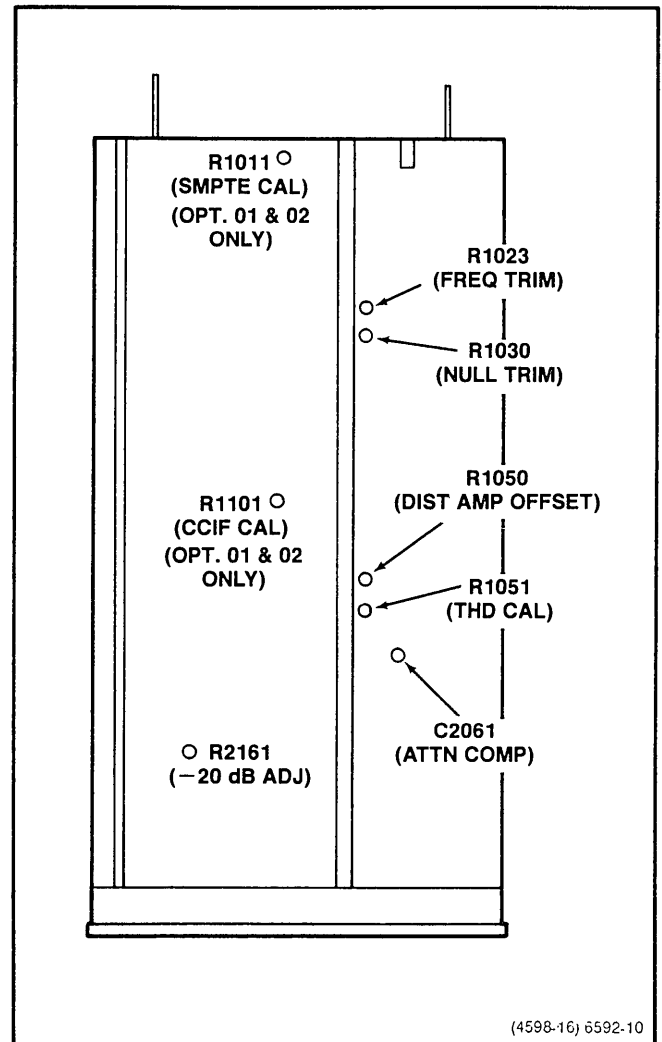

Fig. 4-6. AA 501A top cover adjustment access.
To gain access to the test points and adjustable components, remove the instrument side covers (refer to the Maintenance section for instructions). Some adjustments are accessible through the top and bottom covers. See Fig. 4-6.
e. ADJUST—R1050, accessible through a hole in the top cover (see Fig. 4-6) and located on the Input/Notch Filter board, while alternately pressing the 0.2% and 2% AUTO RANGE buttons for a jump amplitude of less than 100 mV.
g. ADJUST—C2061, accessible through hole in the top cover (see Fig. 4-6) and located on the Input/Notch Filter board, (using an insulated low capacitance screwdriver) for a display readout equal to exactly ten times the reading noted in step 5d.
- h. ADJUST—R2161, accessible through hole in the top cover (see Fig. 4-6) and located on the Logic board, for a display readout of exactly -20.0.
- d. ADJUST—R1030, accessible through hole in the top rail (see Fig. 4-6) and located on the Input/Notch Filter board, for the lowest display readout.
g. ADJUST—R1051, accessible through the top cover hole (see Fig. 4-6) located on the Input/Notch Filter board, for a display readout of 1.000%.
g. ADJUST—R1011, accessible through the top cover hole (see Fig. 4-6) located on the IMD board, for a display readout of 1.000%.